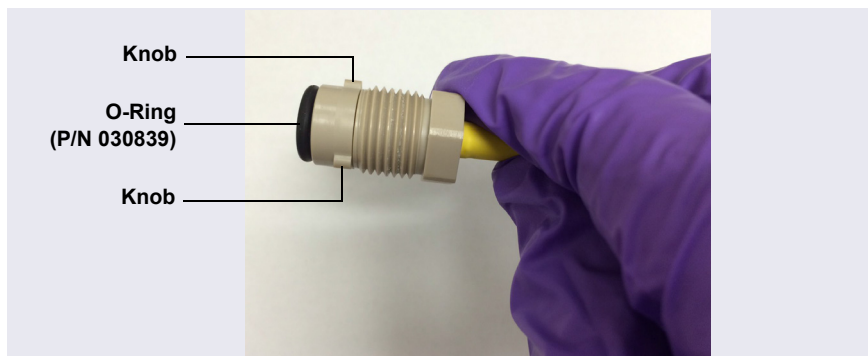

Figure 10-74. PdH Reference Electrode with O-Ring
- Install the O-ring (P/N 030839) on the end of the PdH reference electrode (see Figure 10-74).